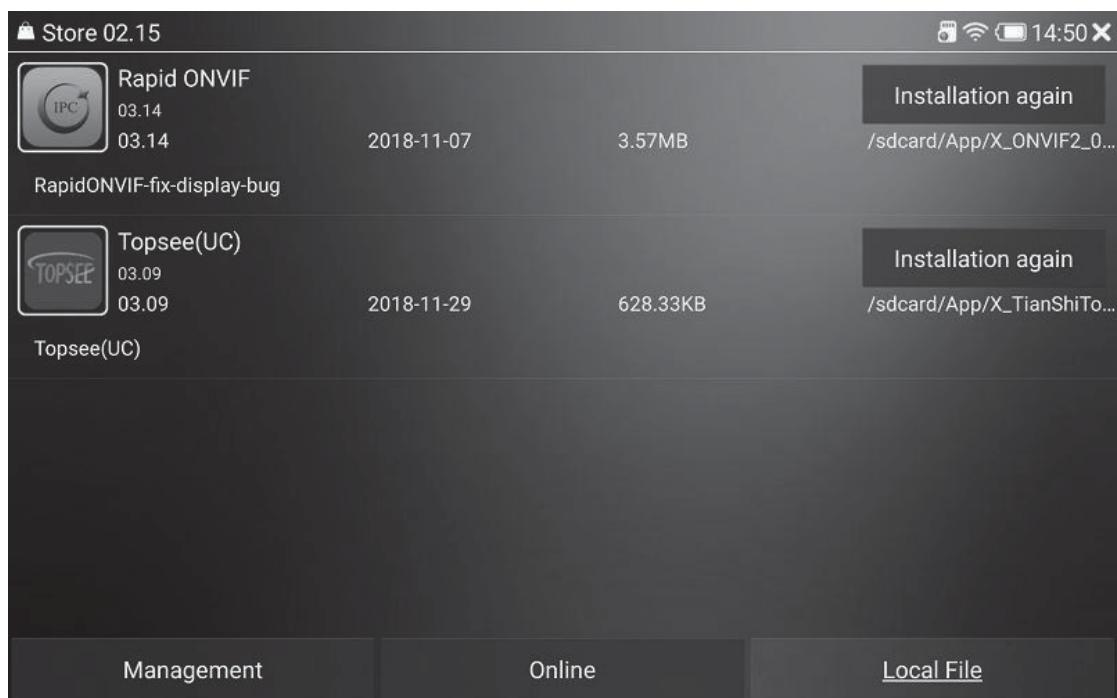

Figure 39
1) Browser function enables user to access the IPC camera directly through web page, touch the ‘Browser’ icon to enter browser function, input camera IP address directly in address bar to open the camera web page, as shown in Figure 39 (notice: all IPC testers in the market do not support installing plug-ins for browser).
3) Local installation, touch ‘Local File’, the instrument will scan internal storage, SD card and U disk to look for installable software packages, long press corresponding Apps to delete application file, as shown in Figure39